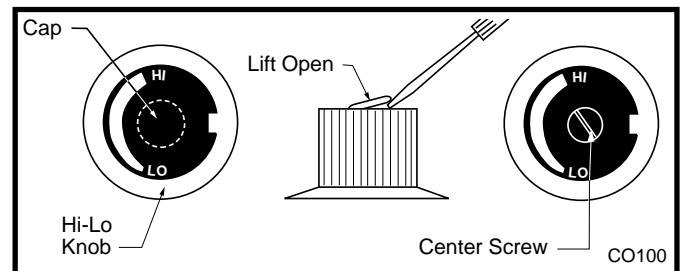

Fig. 40 Remove center screw from Hi-Lo knob.
10. Remove cap from Hi-Lo knob. This can be accomplished by lifting the plastic cap off the screw. (Fig. 40)
11. Remove the screw from center of Hi-Lo knob with small screwdriver turning counterclockwise. (Fig. 40)